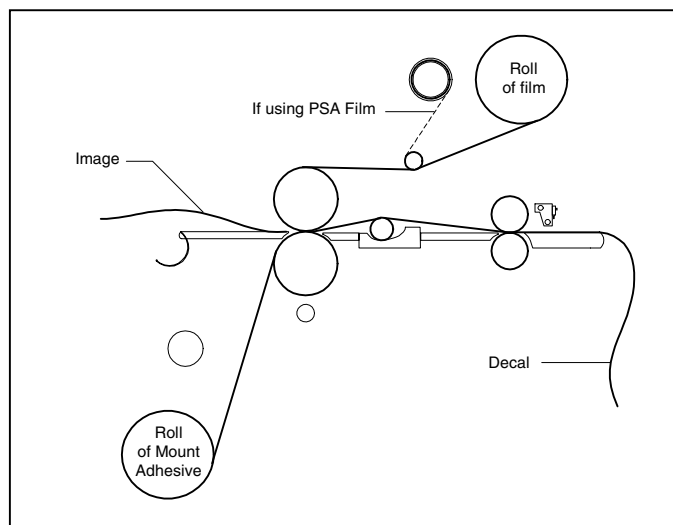

Fig. 39
TIPS FOR CREATING A DECAL (Figure 39)
1. Load the laminator as illustrated in Figure 39.